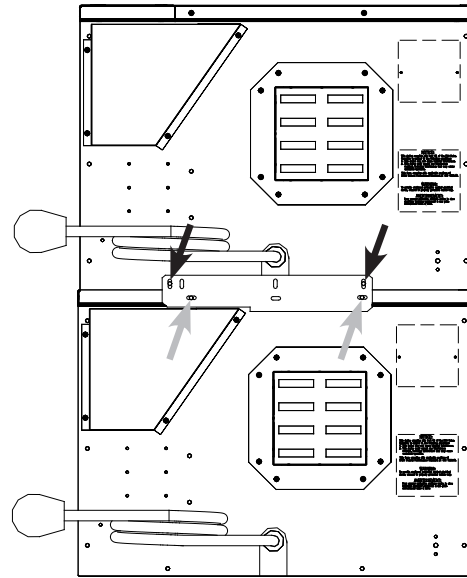

FIGURE 4: Double Stacking Ovens
### Double Stacking Ovens (Figure 4)
- a. Remove the screws marked with gray arrows in Figure 4.
NOTE: Orient the bracket as shown in Figure 4.
6. Remove the screws from the oven that will be placed on top, as marked with black arrows in Figure 4.